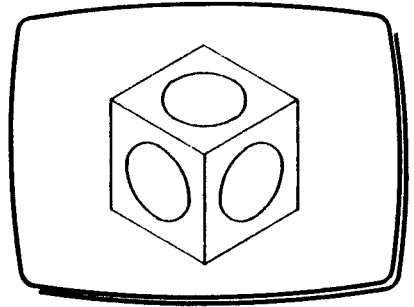

Fig 3
- 10 Draw ellipses on the other visible faces of the cube, Fig 3.